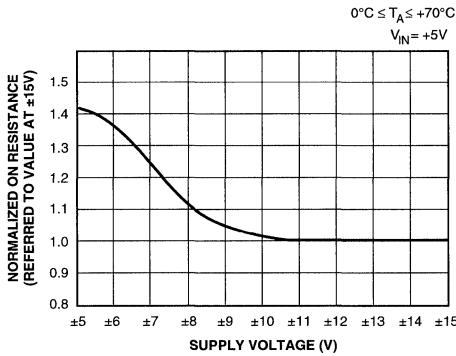

**Figure 2. Expansion to 64 Channels**
3. Channel expansion is accomplished using the inhibit input of the multiplexer. A logic "0" on this input disables the multiplexer. The expansion technique shown in Figure 2 applies to all of the multiplexer models.